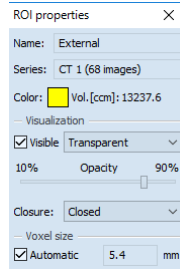

**Figure 256 – Contour on the last image (a), Accepted nearest contour from the last image into the 1st image (b)**
3. The nearest drawn contour is then automatically copied to the current image (see Figure 256).